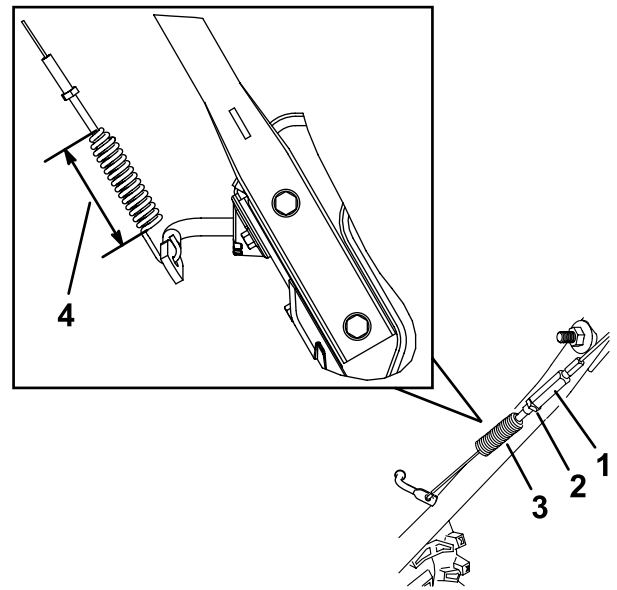

Figure 31
1. Loosen the jam nut (Figure 31).
4. Tighten the jam nut (Figure 31), ensuring that there is slight tension on the cable.
3. Loosen or tighten the turnbuckle to adjust the spring length to 6.6 cm (2-3/5 inches) as shown in Figure 31.